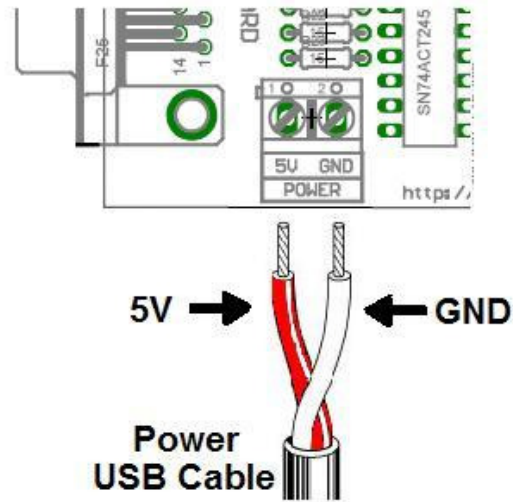

Fig. 4. C26 Power connection.
**Step 2.** Connect the other end of the Power USB Cable to the Power Terminals (X1) how is shown in the figure 4.